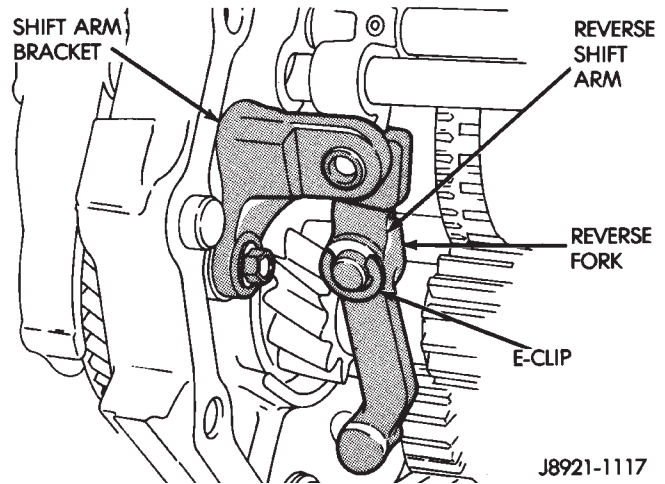

Fig. 110 Reverse Shift Arm And Bracket Installation
(14) Install reverse shift arm bracket (Fig. 110). Tighten bracket bolts to 18 N·m (13 ft. lbs.) torque.
(15) Install reverse shift arm (Fig. 110). Position arm on reverse fork pin and engage it with pin on shift arm bracket.
(16) Verify that shift arm shoe is engaged in reverse idler gear. Then secure shift arm to pin on reverse fork with new E-clip.